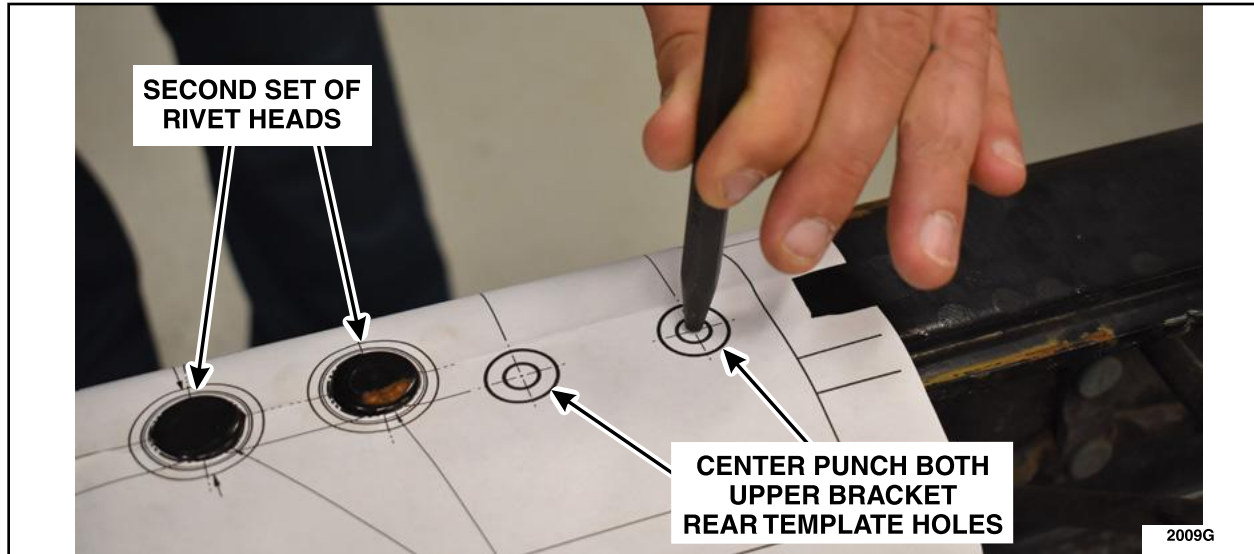

FIGURE 5
5. Using a center punch, mark the center of the smaller diameter circles. See Figure 5.